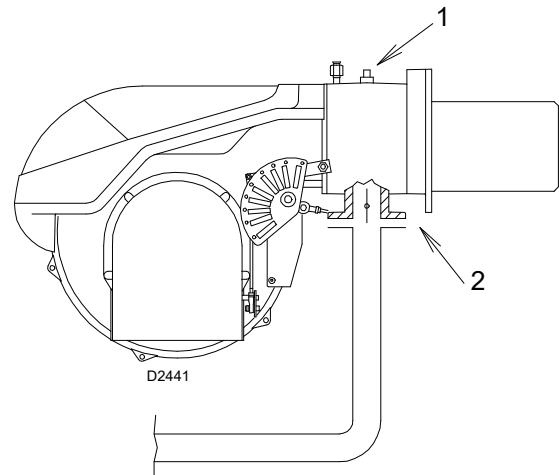

Fig. 32
Gas manifold pressure measured at test point 1)(Fig. 32), with:
- subtract the combustion chamber pressure from the gas pressure measured at test point 1)(Fig. 32).
- Gas pressure at test point 1)(Fig. 32) = 8.0" WC